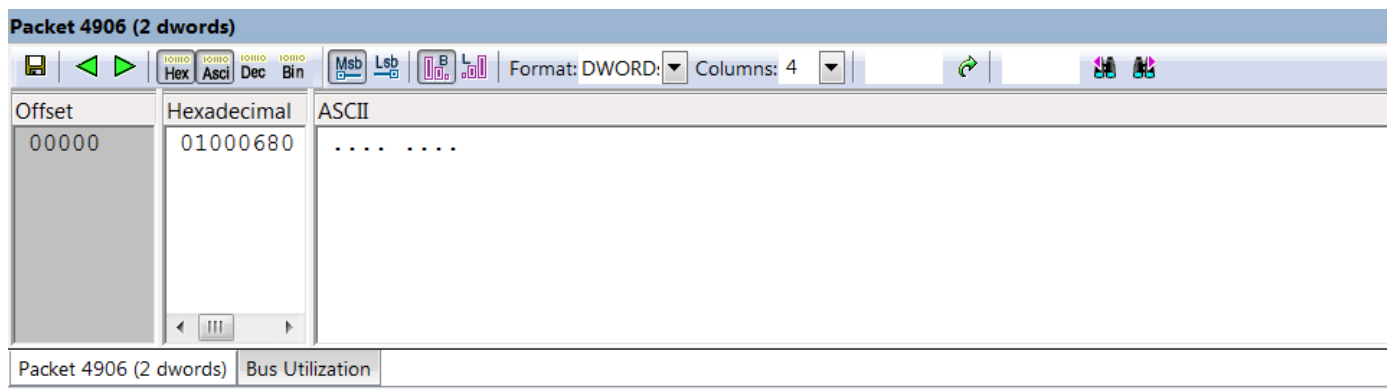

Figure 5.29: Data Block Dialog
2. Select **View Data Block** or the  **Data View** button to open the Data Block dialog box (see Figure 5.29 on page 196).